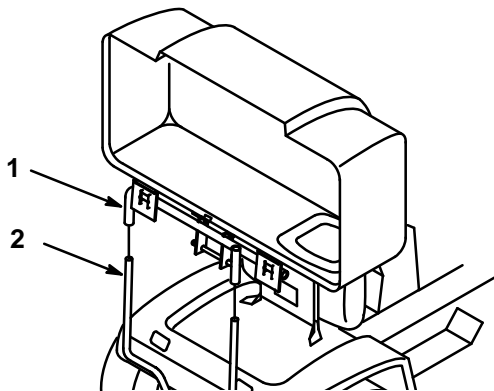

Figure 23
4. With lid in the open position carefully lift the bagger top and slide it onto the quick-attach bracket (Fig. 23).